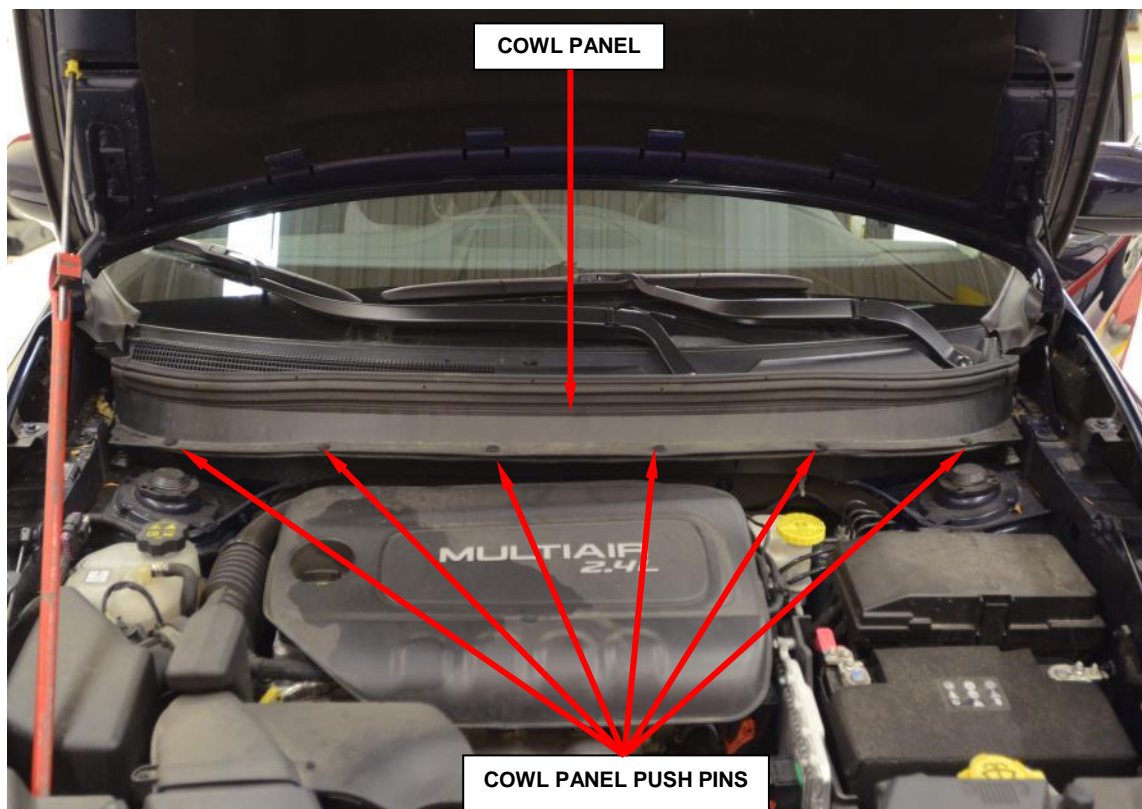

Figure 3 – Cowl Panel Push Pins
- a. With the use of C-4755 or equivalent, remove the six push pins attaching the cowl panel to the cowl plenum extension (Figure 3).